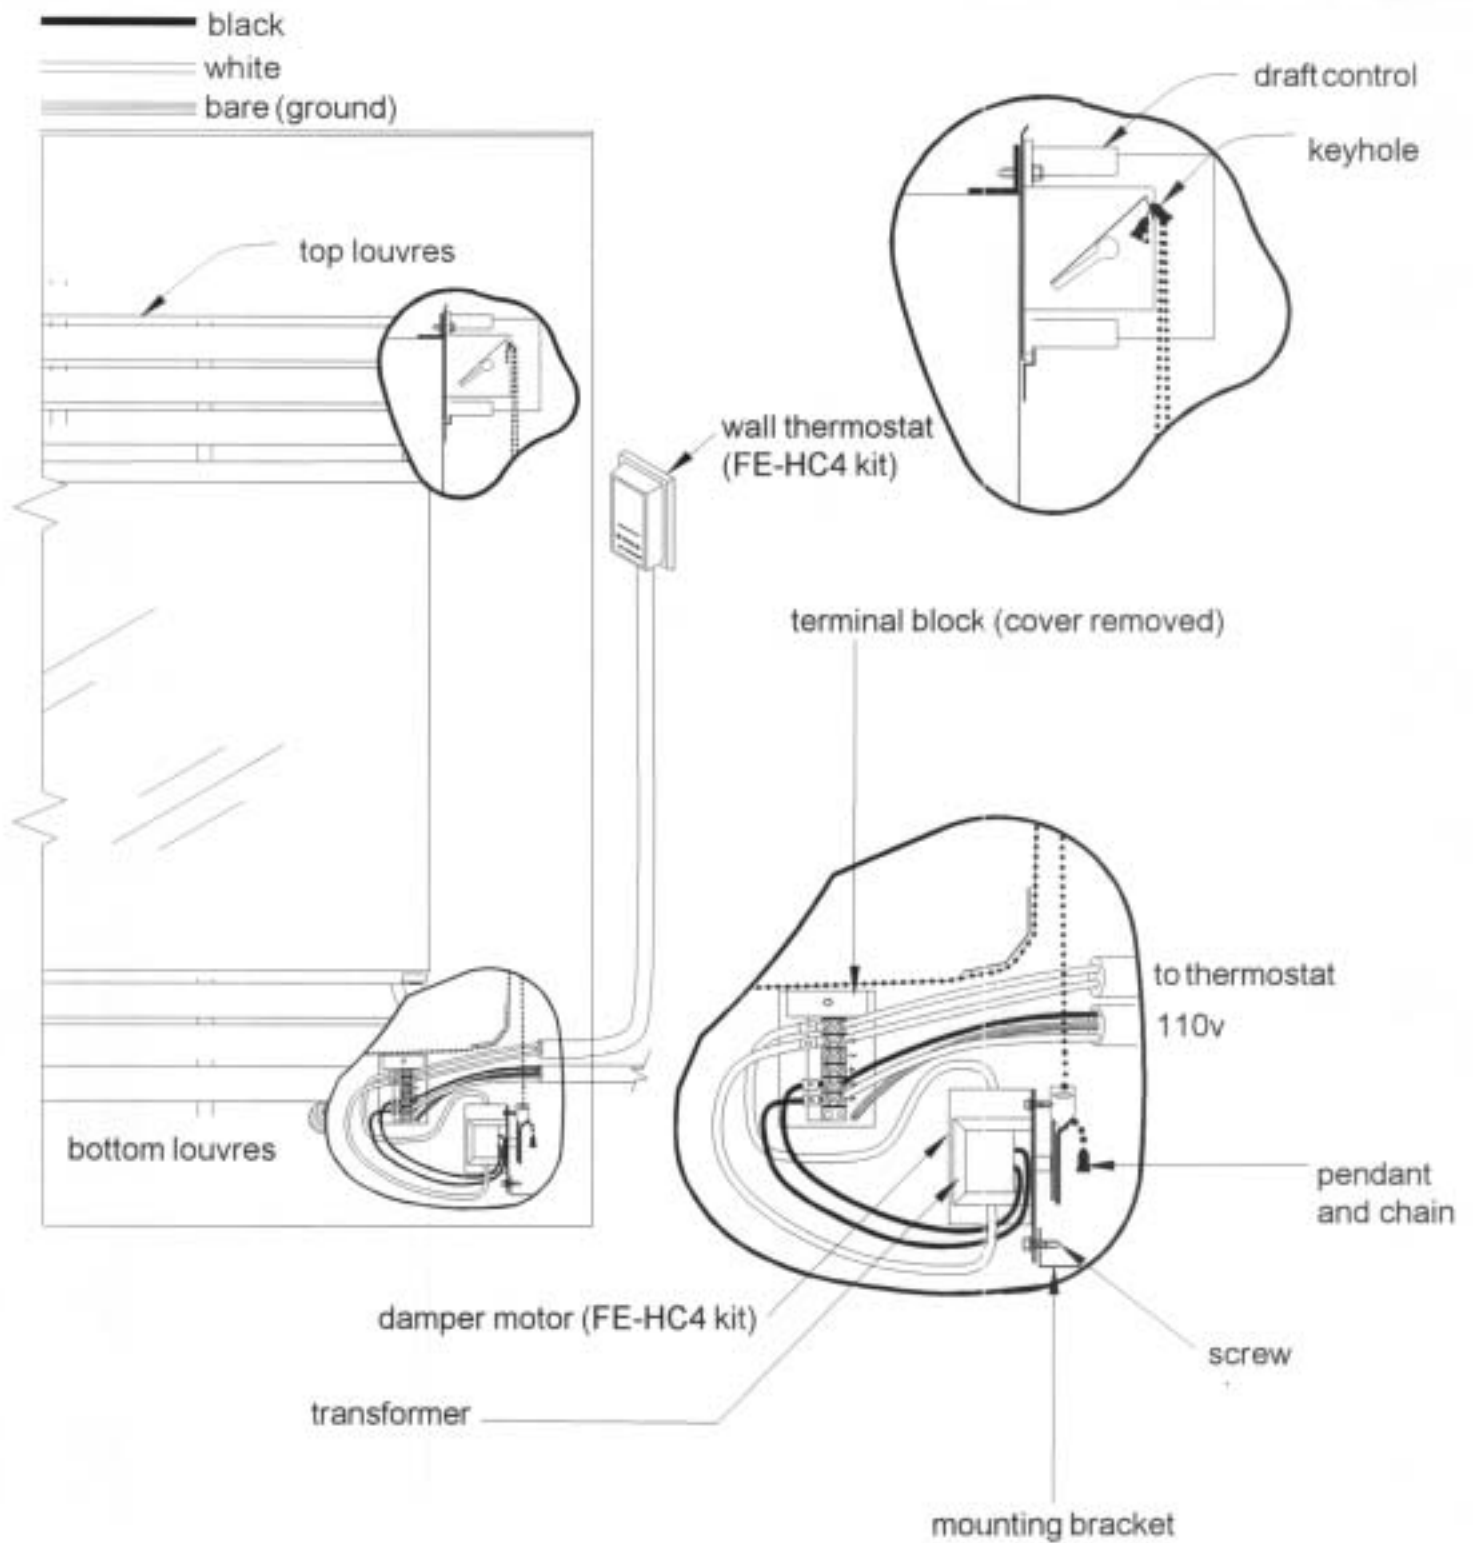

Figure 24: Thermostat control installation
2. The damper motor and transformer are mounted on a bracket in the bottom right hand corner of the fireplace. Mounting screws are supplied and are already in place in the bracket (See Figure 24).
4. Mount the thermal switch as shown in Figure 24. The front face of the fireplace is bent into a flange just above the lower opening. It has 2 holes to hold the bottom louvre rods. The thermal switch mounts just to the right of the right hole. Push the clips on to the flange as far as they will go.